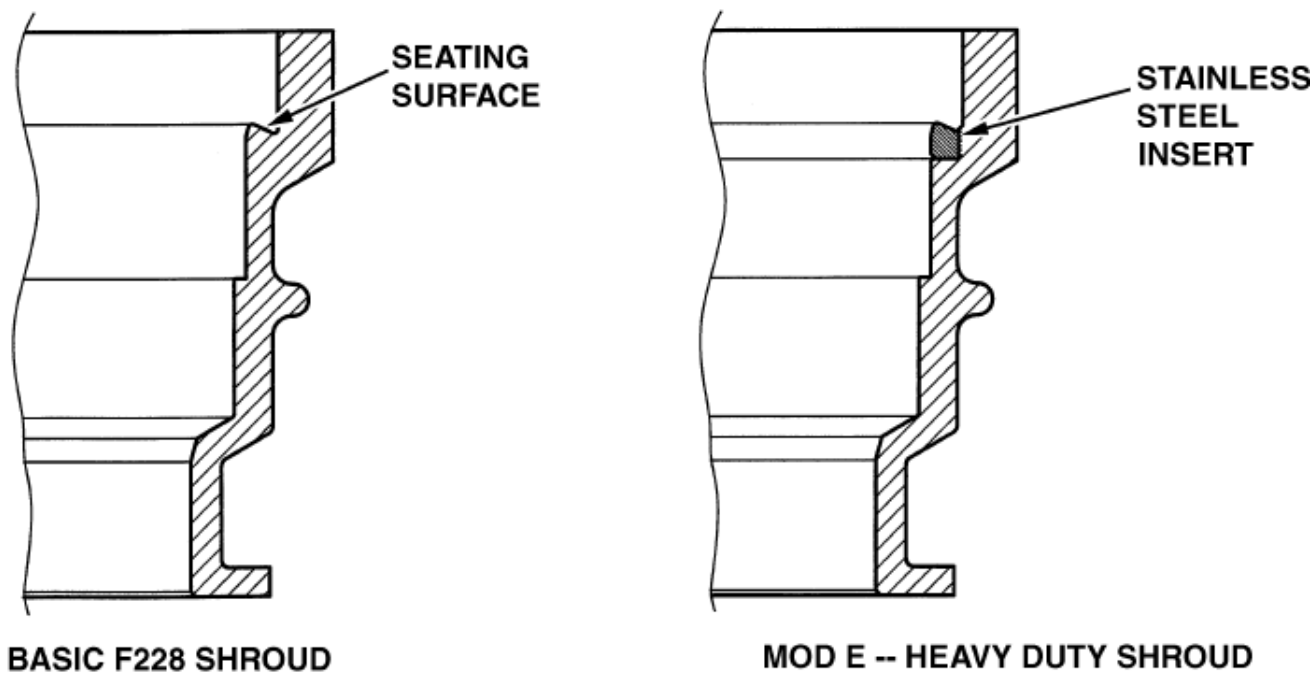

Figure 2. Shroud Variations
A. The basic F228 series coupler is equipped with standard seals. The Mod C variation utilizes Viton seals. The Mod E variation adds a stainless steel insert for heavy duty service (see Figure 2). Refer to the ILLUSTRATED PARTS LIST section for additional details.